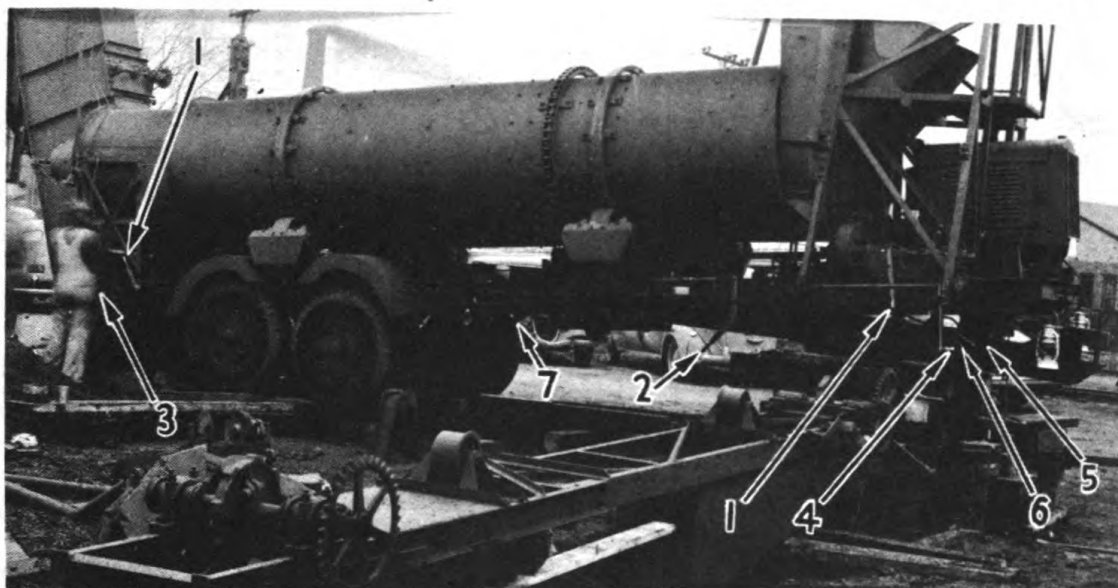

FIG. 25 - DRYER OPERATING LEVERS.
The clutch can be engaged or disengaged by the use of either of two levers (1) Fig. 25 provided. One lever is located near the engine platform on the cold elevator side of the dryer. The other is mounted at the discharge end of the dryer, also on the cold elevator side. Two strands of 1/4" wire rope interlock both levers. The purpose of the two levers is to enable the operator to engage or disengage the clutch from either end of the dryer. Either lever is pulled toward the discharge end to engage and pushed toward the charging end to disengage. The clutch should be engaged slowly to relieve the driving machinery of undue strain. Either lever starts and stops all machinery except the engine.
A jaw clutch on the elevator drive shaft is provided for the purpose of disengaging the cold elevator when it is desired to run the dryer separately, such as when "cooling out" the drums or checking the operation of the dryer and etc. The lever (2) Fig. 25, used to engage the cold elevator is located immediately ahead of the tool box. To engage the lever, pull toward discharge end of dryer, and push back to disengage. The master clutch should be disengaged before engaging this lever to prevent damage to the clutch when the jaws fall in place.
The hot elevator drive is engaged by means of a sliding jaw clutch on the elevator drive shaft. The clutch is engaged by a lever (3) Fig. 25, located at the bottom of the combustion chamber support frame. The lever guide, along which the lever moves, is notched for engaged and disengaged positions. The lever is moved toward the charging end of the dryer to engage, and back toward the discharge end of the dryer to disengage. Always disengage the master clutch before engaging this clutch.
The function of the safety latch lever (4) Fig. 25, is to engage, or retract, the latch dogs on the towing frame. The lever is pulled away from the machine to engage and is pushed inward to disengage the latch dogs.
The hydraulic pump lever (5) Fig. 25, is stroked alternately forward and back to create pressure for increasing the dryer slope.
The parking brake lever (7) Fig. 25, is located on the cold elevator side of the dryer about midway between the rear axle fender and the front trunnion support frame.